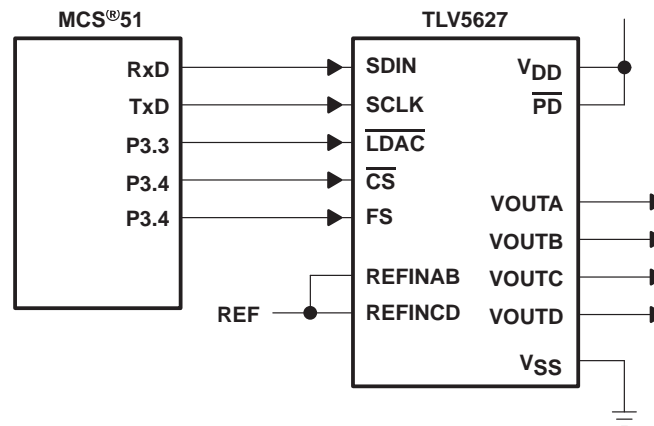

Figure 18. TLV5627 Interfaced with MCS[®]51
Figure 18 shows an example of how to connect the TLV5627 to an MCS[®]51 Microcontroller. The serial DAC input data and external control signals are sent via I/O Port 3 of the controller. The serial data is sent on the RxD line, with the serial clock output on the TxD line. Port 3 bits 3, 4, and 5 are configured as outputs to provide the DAC latch update ($\overline{\text{LDAC}}$), chip select ($\overline{\text{CS}}$) and frame sync (FS) signals for the TLV5627. The active low power down pin (PD) of the TLV5627 is pulled high to ensure that the DACs are enabled.